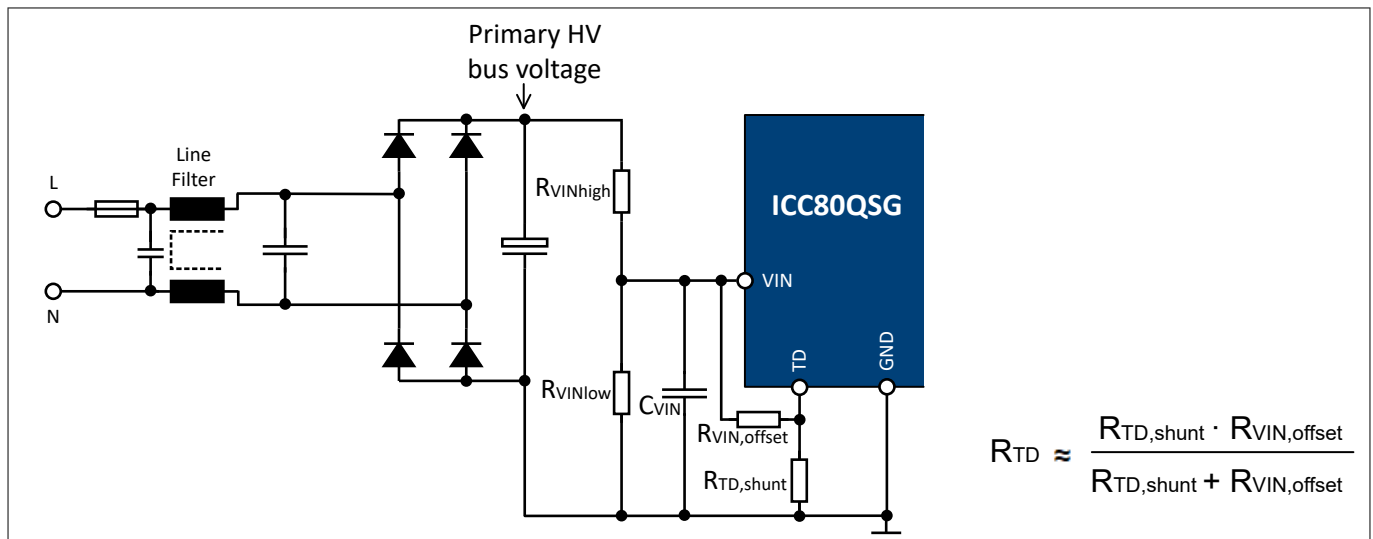
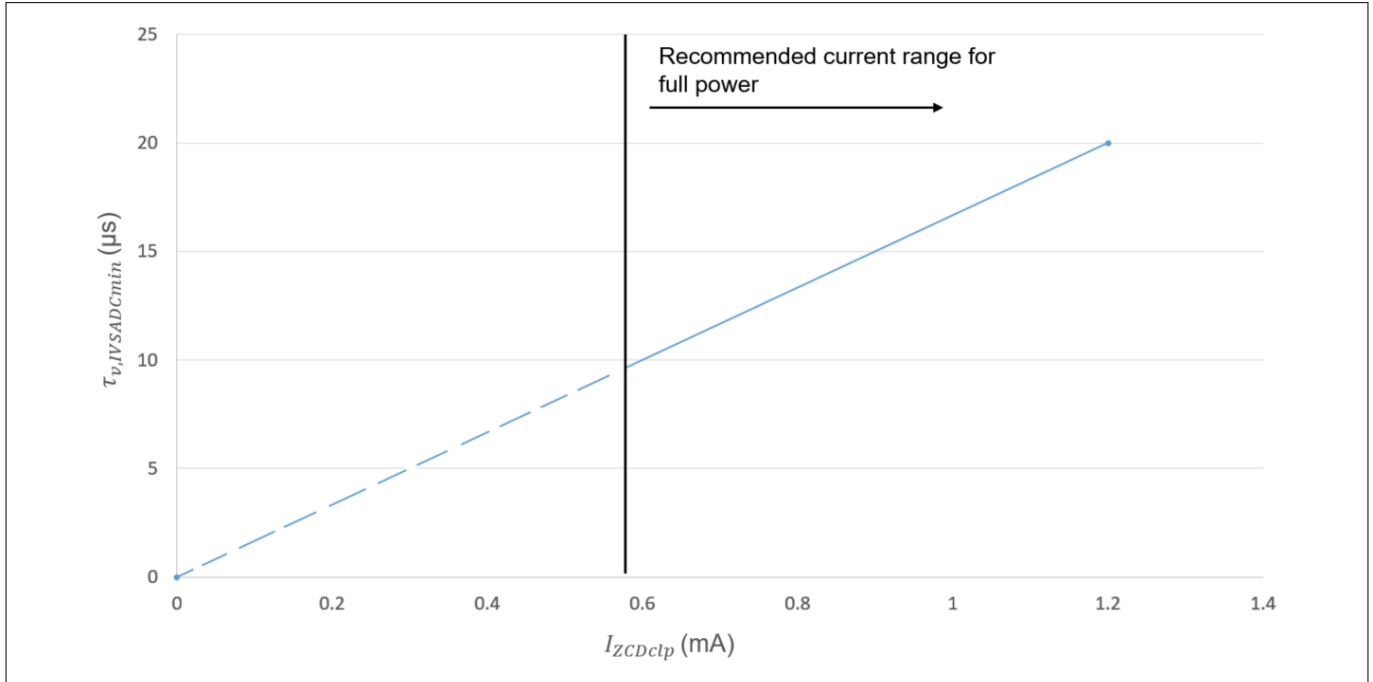
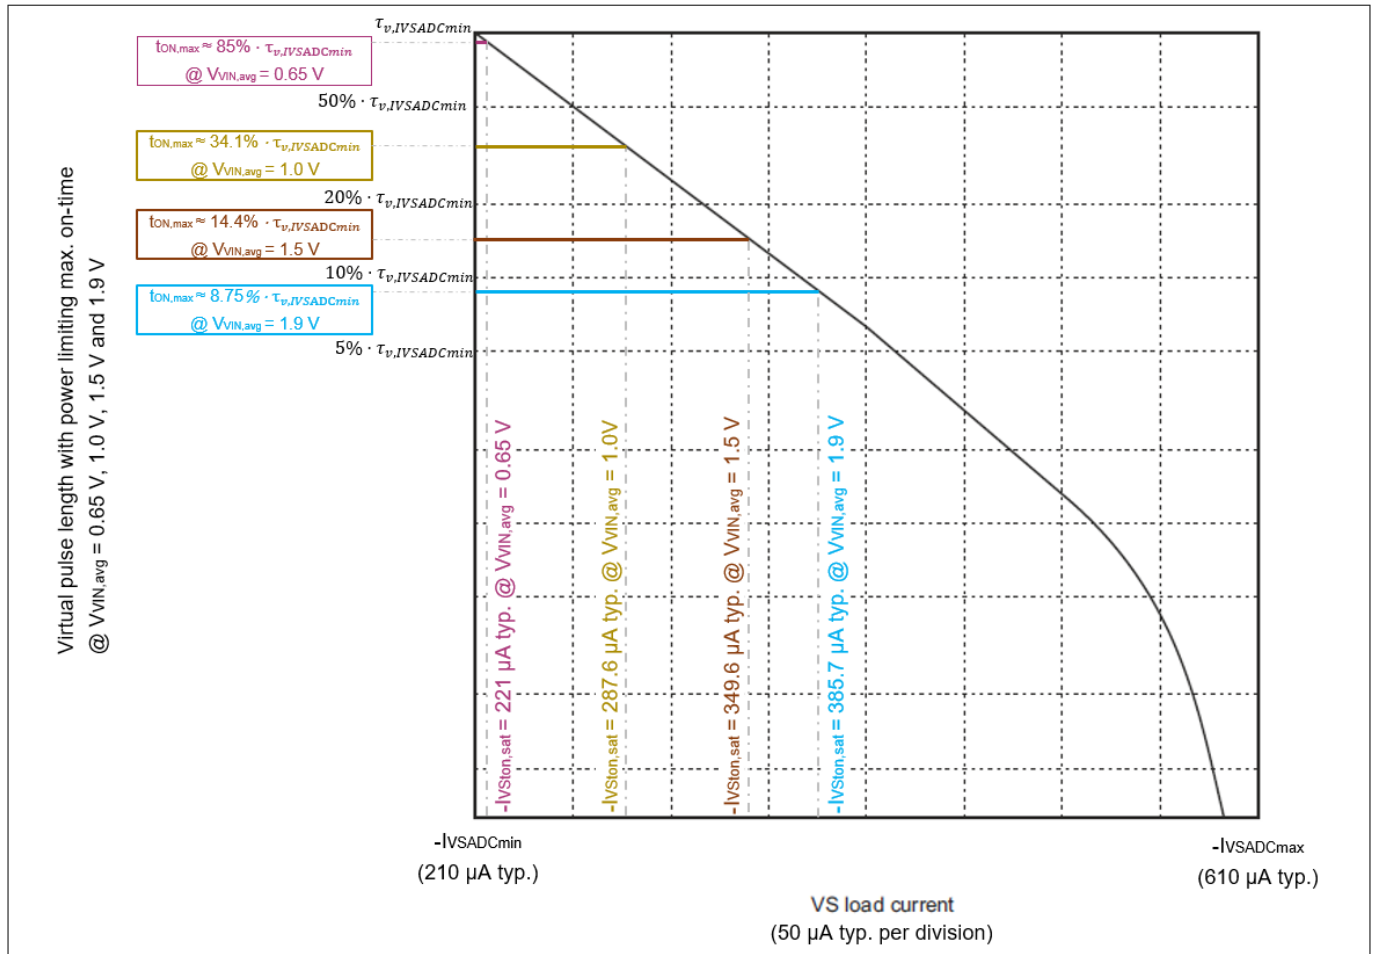

Figure 5 V_{IN} pin circuit
Figure 12 Virtual pulse length at $I_{VSADCmin}$, $\tau_{v,IVSADCmin}$ versus ZCD peak to peak settled clamping current, I_{ZCDclp}
Figure 13 Virtual pulse length mapping with power limiting maximum on-time effect
At higher power transfer, the primary bus voltage ripple is higher, and $V_{VIN,avg}$ becomes lower. As a result, a relatively higher AC input brownout protection level can be triggered at higher power transfer, to better protect the primary components from overheating and saturation in case of input under-voltage condition occurs. Apart from that, the hysteresis between AC input brownin and brownout level can be added externally with $R_{VIN,offset}$, as shown in Figure 5. It works by creating an offset voltage on the V_{IN} pin when the TD pin internal pull-up is enabled in RUN state.
When the $R_{VIN,offset}$ is connected between TD pin and V_{IN} pin, R_{TD} can be approximated based on the equation shown in Figure 5. The R_{TD} detected in the pre-start-up phase must be designed to be at least 27 k Ω when TD pin is internally pulled up by $R_{TD,RUN}$, and not more than 68 k Ω when TD pin is internally pulled up by $R_{TD,flyback}$, to activate the VS pin load current sensing for output regulation and stay within the TD configuration limit.
Based on Equation 4, the equation for R_{TD} approximation in Figure 5 can be derived, when a resistor $R_{VIN, offset}$ is added between VIN pin and TD pin to configure the brownin and brownout hysteresis.
1. Based on $I_{ZCDclp} = 1.2$ mA, obtain $\tau_{v,IVSADcmin} = 20$ μ s from Figure 12.
For $t_{ON,max}$ estimation, it is important to note that $\tau_{v,IVSADCmin}$ changes with different $V_{VIN,avg}$ level, when the input voltage detection circuit in Figure 5 is applied. This is because $\tau_{v,IVSADCmin}$ is scaled depending on I_{ZCDclp} in Figure 12, while I_{ZCDclp} is dependent on the input voltage, as explained in ZCD pin signal sensing.
Figure 13 shows the virtual pulse length with the power limiting maximum on-time effect, when $V_{VIN,avg}$ is 0.65 V, 1.0 V, 1.5 V and 1.9 V, respectively.
When $V_{IN,avg}$ is at the brownin level ($V_{BI} = 0.647\text{ V typ.}$), the power limitation is enabled with $t_{ON,max} = \text{approx. } 85\%$ of $\tau_{v,IVSADCmin}$, as shown in Figure 13. For example, if the desired $t_{ON,max}$ at brownin level is $17\text{ }\mu\text{s typ.}$, it is necessary to have $\tau_{v,IVSADCmin} = 17\text{ }\mu\text{s} / 85\% = 20\text{ }\mu\text{s}$. And, according to Figure 12, $\tau_{v,IVSADCmin} = 20\text{ }\mu\text{s}$ is obtained when $I_{ZCDclp} = 1.2\text{ mA}$ is applied. As a result, to achieve $t_{ON,max} = 17\text{ }\mu\text{s typ.}$ at brownin level, R_{ZCD} should be dimensioned to produce $I_{ZCDclp} = 1.2\text{ mA typ.}$ at brownin level.